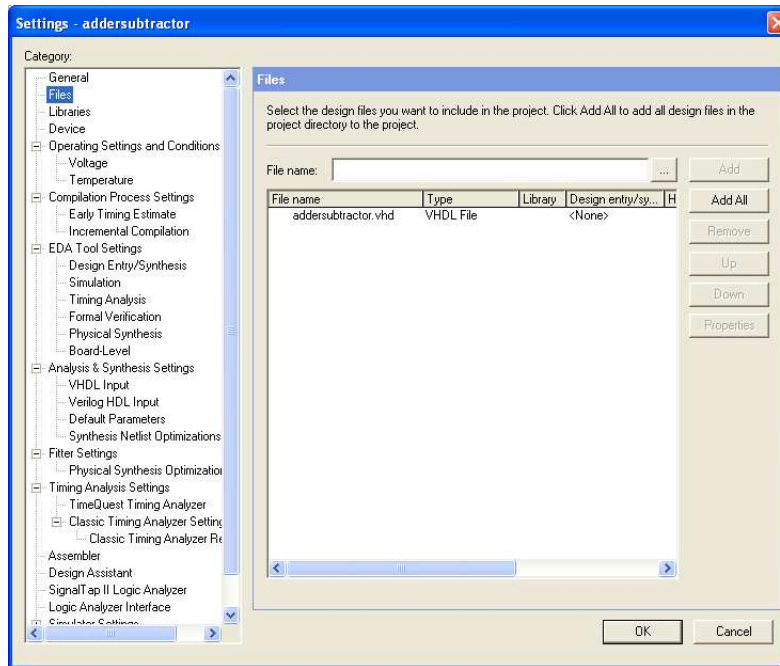
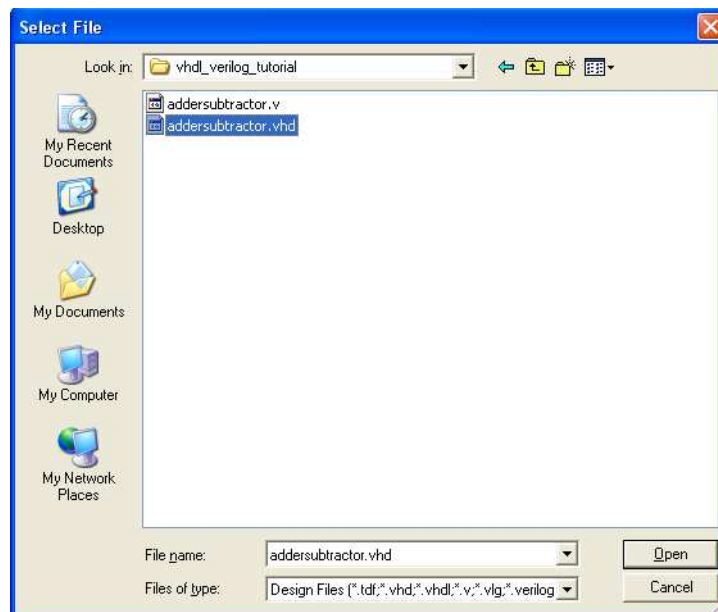

Figure 17: Settings window.
Figure 18: Select the file.
As we indicated when discussing Figure 6, you can tell the Quartus® II software which design files it should use as part of the current project. To see the list of files already included in the *addersubtractor* project, select **Assignments > Settings > Files**, which leads to a window similar to the window in Figure 17. An alternative way of making this selection is to go to **Project > Add/Remove Files in Project**.
If you used the Quartus® II Text Editor to create the file and checked the box labeled **Add file to current project**, as described in Section 3.1, then the *addersubtractor.vhd* file is already a part of the project and will be listed in the window in Figure 17. Otherwise, the file must be added to the project.
2. To add this file to the project, click on the ... button beside the File name field in Figure 17 to get the pop-up window in Figure 18.
3. Select the *addersubtractor.vhd* file and click **Open**. The selected file is now indicated in the File name field of Figure 17. Click **Add** and then **OK** to include the *addersubtractor.vhd* file in the project.